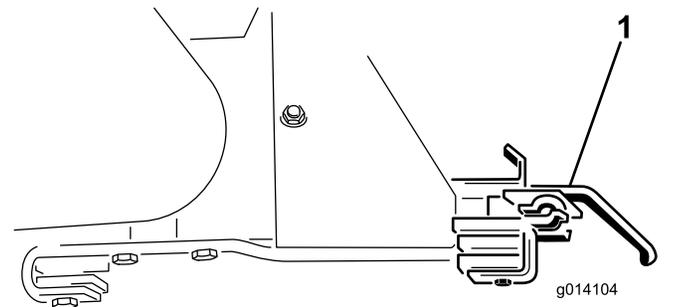

Figure 59
18. Remove the two option attachment brackets (Figure 59).